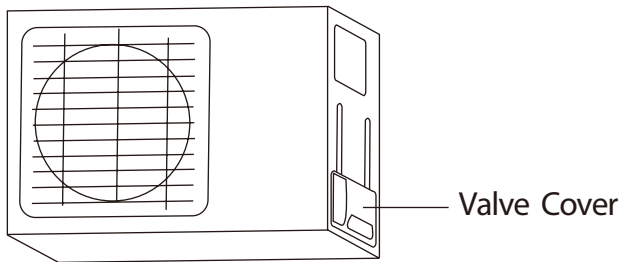

Fig. 5.9
1. Unscrew the cover from the packed valve on the side of the outdoor unit. (See Fig. 5.9.)